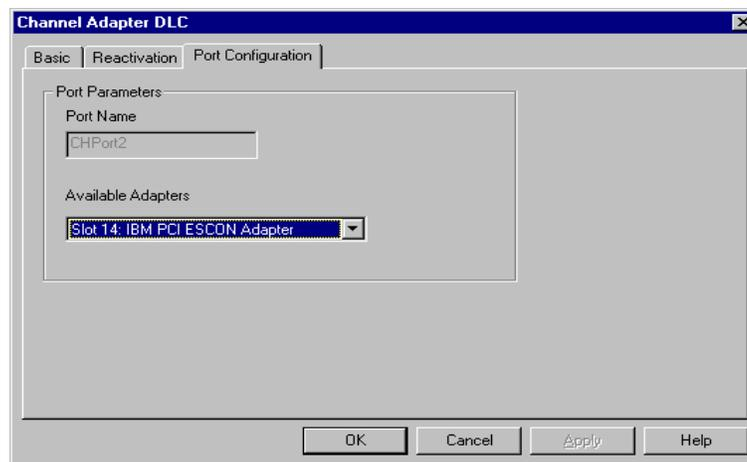

Figure 7-15. Selecting the ESCON Adapter
3. For standard connections use the mouse to select the Port Configuration tab (Figure 7-15).